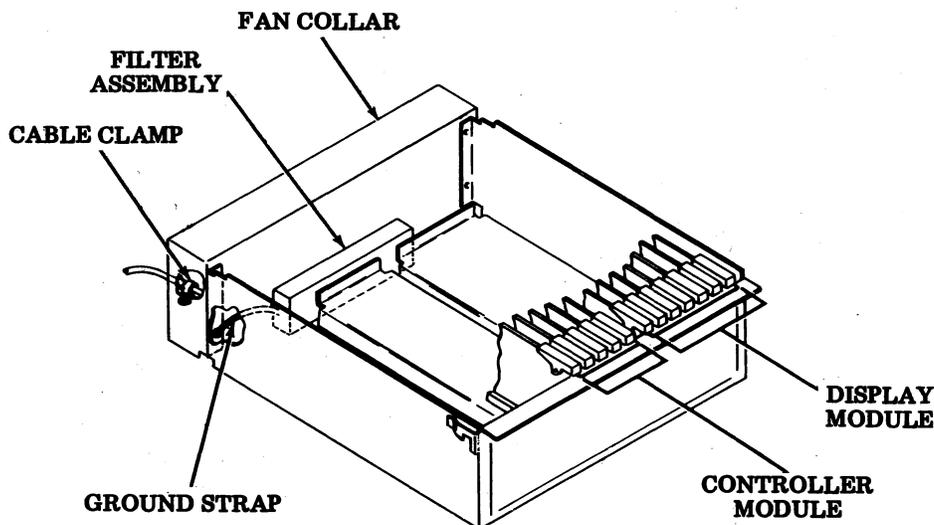

Fig. 22—Electronics Package Removed From Pedestal Door
4.52 Remove the cable clamp located inside the fan collar on the left side by removing the nut that holds it (Fig. 22).
4.57 Remove the screws from the left and right side of the filter assembly cover attached to the rear of the controller module (Fig. 22). One of the screws attaches the ground strap to the left side of the filter assembly. Remove the metal strip from the sides and bottom of the filter assembly.